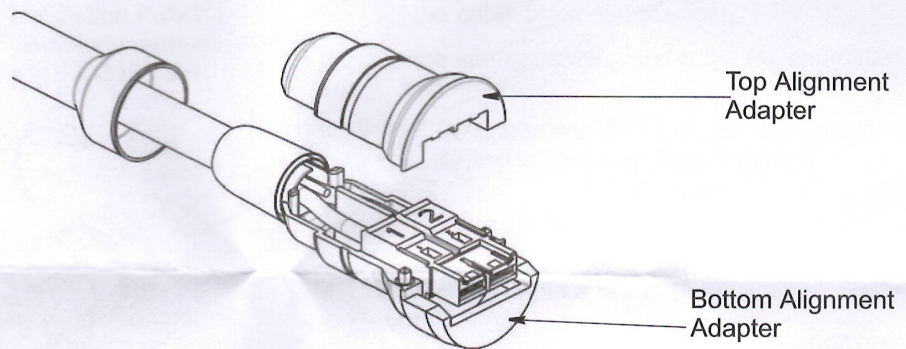

Figure 6
11. Place the top and bottom alignment adapters over the connector. Refer to Figure 6.